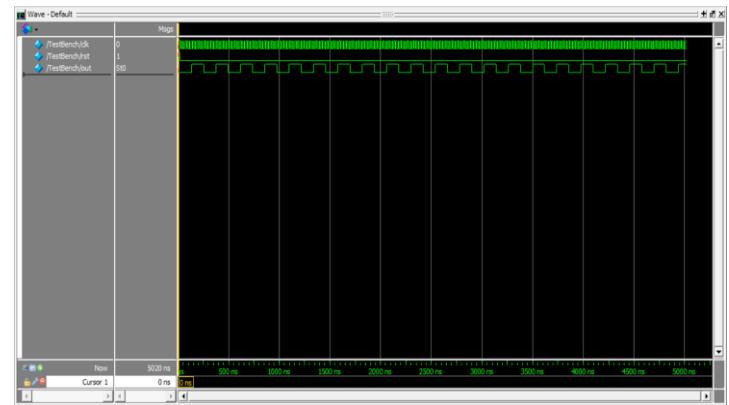

Fig. 7 Waveform ring oscillator
3. Clock cycle length for the ring oscillator is equal to 240 ns so frequency is 4166666 Hz. Waveforms are shown in figure 7.